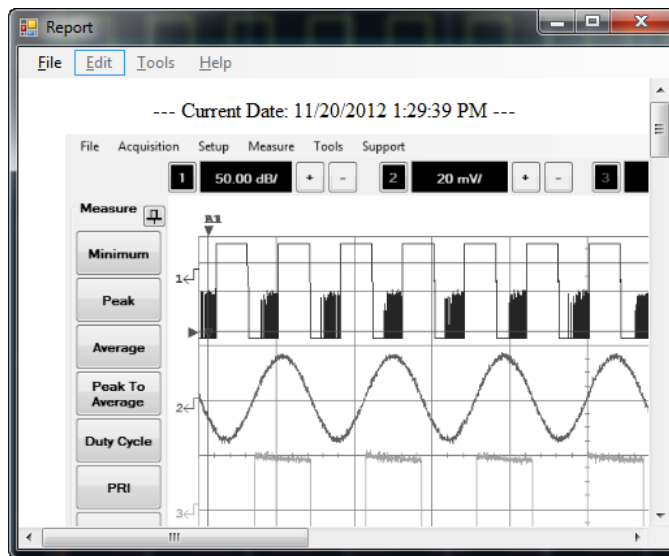

Figure 2-145 Generated report
- 6 An example of the generated report is as shown in Figure 2-145.